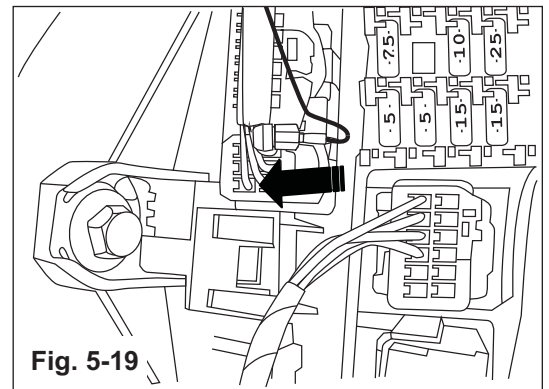

Fig. 5-19
- a) Insert male spade terminal of the **Black/White-Striped** wire into opening of wire tap on the **Green / White-Striped** wire. (Fig. 5-19)